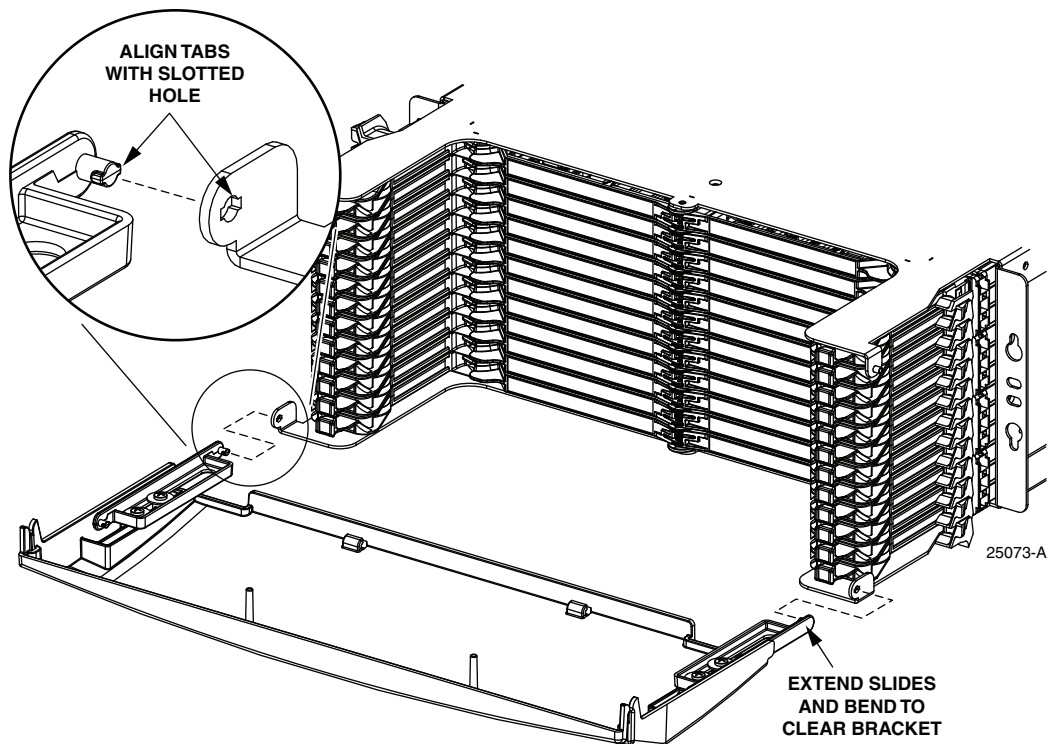

Figure 4. Lining Up Door With Slots
1. Position the door at a 90 degree angle with respect to the chassis to align the tabs with the slotted hole, as shown in Figure 4. Push out slightly on the mounting arms to clear the brackets, allowing the tabs to slide into the slotted hole.